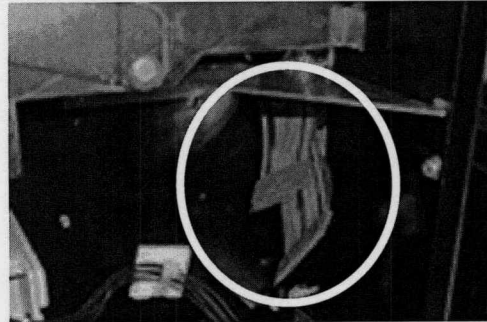

Figure 5
7. Referring to figure 5, locate the two flat-ribbon flex cables exiting the rear of the selection keypad. Remove the extension cables that are connected to them.